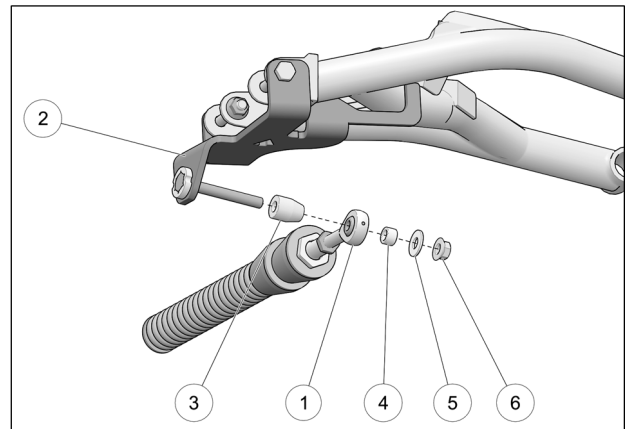

Fig. 11
- Attach stabilizing rod (**1**) to anchor bracket (**2**), using the long spacer bushing (**3**), short spacer bushing (**4**), flat washer (**5**) and nut (**6**). Torque to 70 N•m [52 lb•ft]. See Fig. 11